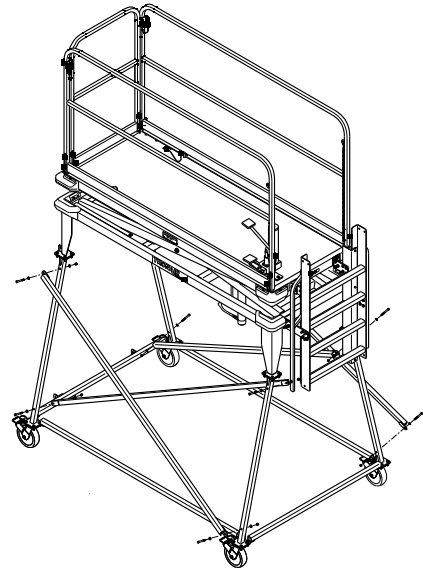

FIGURE 3
5. Install cross braces using $\frac{3}{8}$ -16 x 3 inch long bolts (See *Figure 3*).